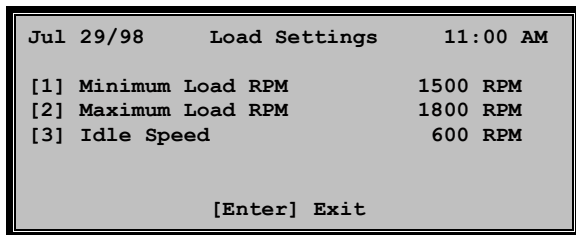

Figure 2-34
- (b) The LOAD SETTINGS screen (Figure 2-34) will be displayed.